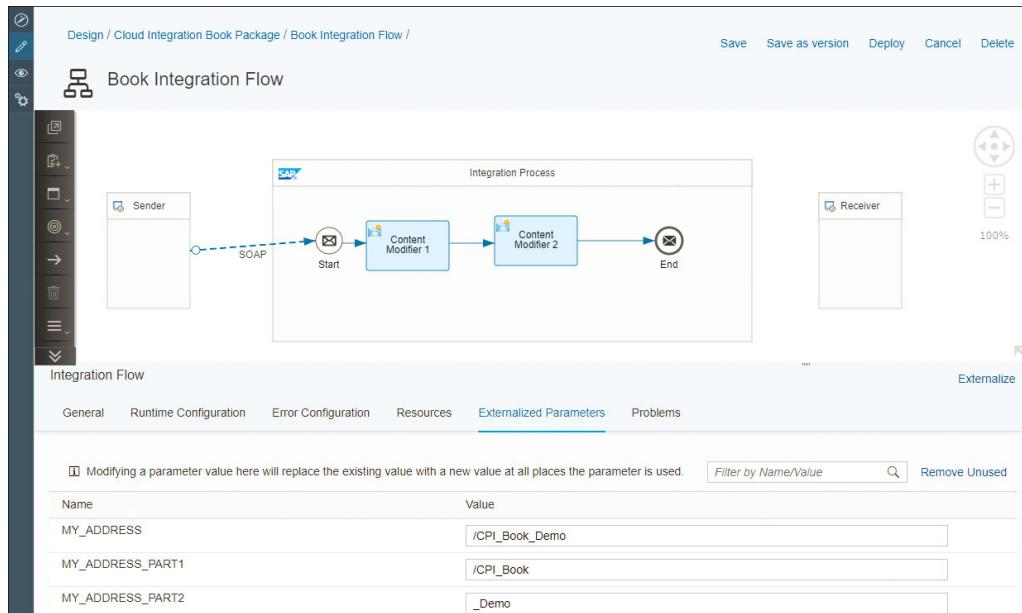
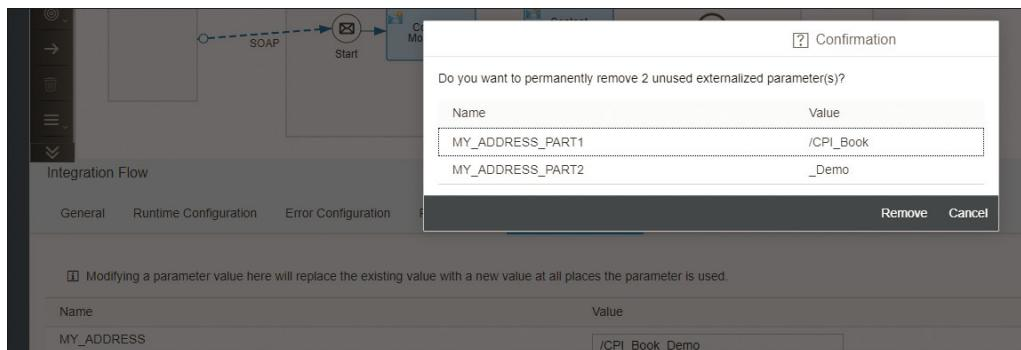

Figure 4.34 Externalized Parameters View in Design Time
Figure 4.35 Removing Unused Externalized Parameters
2. Open the integration flow in edit mode, and select the **Externalized Parameters** view, as shown in Figure 4.34. Note that this shows a list of all existing externalized parameters of the whole integration flow. These parameters aren't necessary for our example exercise; they have been added just for illustration sake.
3. In this view, you can also filter the parameters using their names or values via the **Filter by Name/Value** field (see right corner of Figure 4.34).
5. Lastly, you can remove unused parameters using the **Remove Unused** link on the left side (see Figure 4.34). When you've done this, SAP Cloud Platform performs a check to identify unused parameters, and a screen appears with a request to confirm the removal of unused fields (see Figure 4.35). Upon confirmation, all unused parameters will be removed.